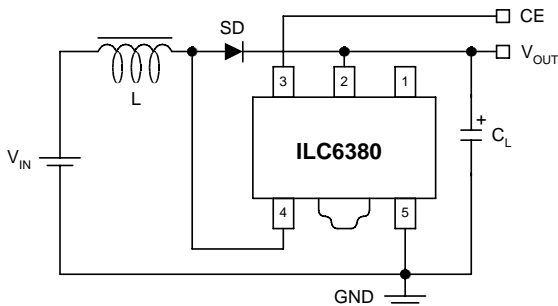

Figure 3
$V_{OUT} = 5.0\text{V}$, $F_{OSC} = 100\text{kHz}$, $T_A = 25^\circ\text{C}$. Unless otherwise specified, $V_{IN} = V_{OUT} \times 0.6$, $I_{OUT} = 50\text{mA}$. See schematic, figure 3
- The Schottky diode (S.D.), in figure 3 must be type MA735, with Reverse current (I_R) $< 1.0\mu\text{A}$ at reverse voltage (V_R)=10.0V
- The Schottky diode (S.D.), in figure 3 must be type MA735, with Reverse current (I_R) < 1.0 μA at reverse voltage (V_R)=10.0V